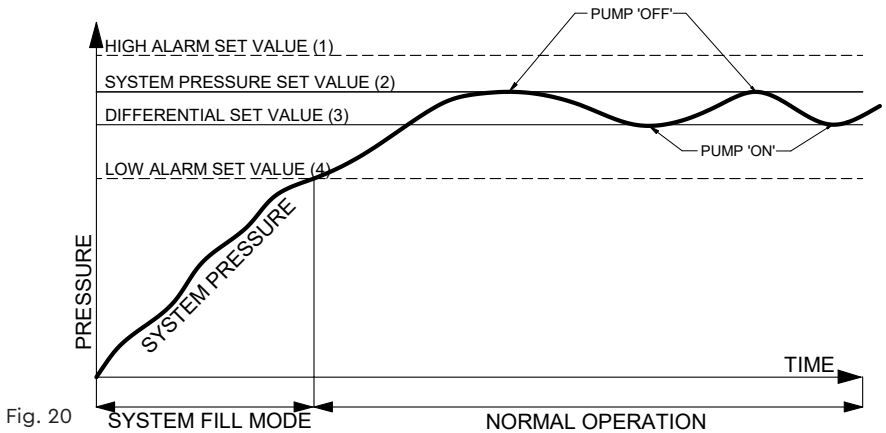

Fig. 20
<p>System pressure (2) see Fig. 20</p>	<p>Sets the required system pressure. Set in 0.1 bar increments up to the maximum set value for the SPU model. SPU 130 & 230, 3.5 bar max., SPU 150 & 250, 4.1 bar max.</p>
<p>Differential pressure (3) see Fig. 20</p>	<p>Sets the pressure the SPU will turn on at as the system pressure falls. Relative to the system pressure. Set in 0.05 bar increments below the System pressure (2), cannot be set above 0.1 bar below the System pressure (2).</p>
<p>Hi Alarm (1) see Fig. 20</p>	<p>Sets high system pressure alarm. Set in 0.05 bar increments above the System pressure (2). Cannot be set below System pressure + 0.05 bar. Alarm auto resets when system pressure is reduced below alarm level.</p>
<p>Lo Alarm (4) see Fig. 20</p>	<p>Sets low system pressure alarm. Set in 0.05 bar increments below the System pressure (2) – Differential pressure (3) – 0.05 bar. Alarm auto resets when system pressure is increased above alarm level</p>